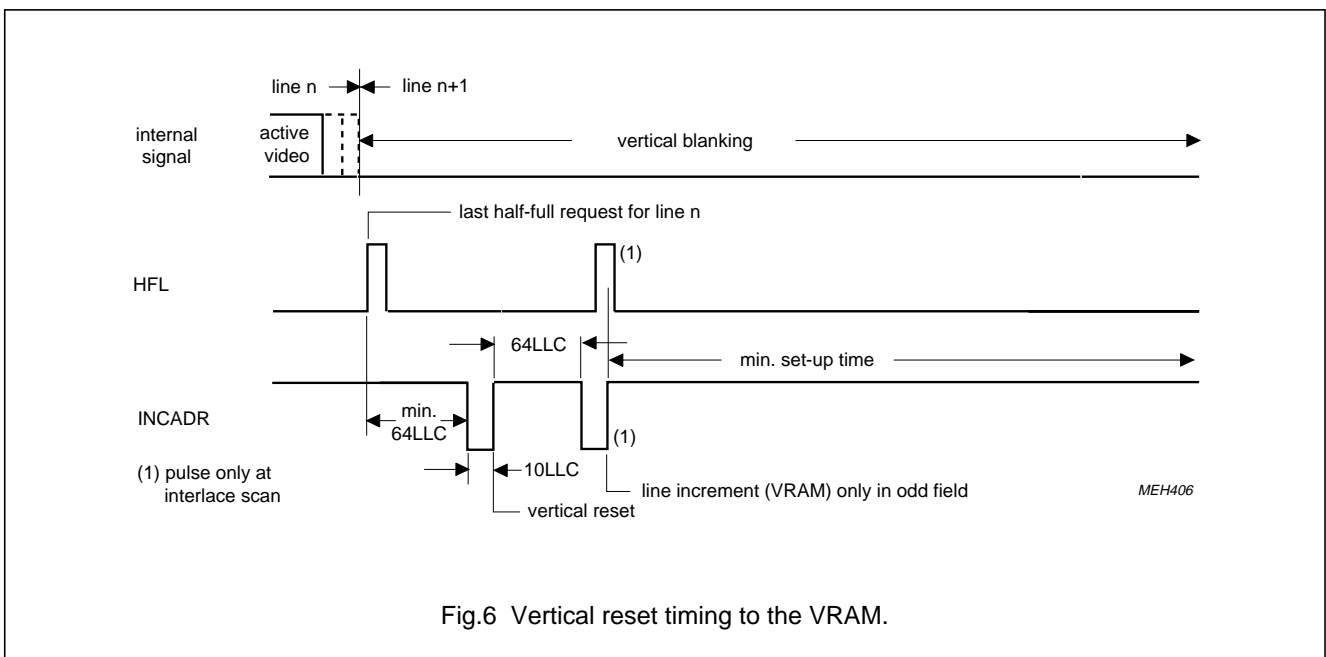

Fig.6 Vertical reset timing to the VRAM.
combination with INCADR to indicate the line increments (Figures 6 and 7).
- INCADR output signal is used in combination with HFL to control horizontal and vertical address generation for a memory controller. The pulse sequence depends on field formats (interlace/ non-interlace or odd/even fields, Figures 6 and 7) and control bits OF (subaddress 00).